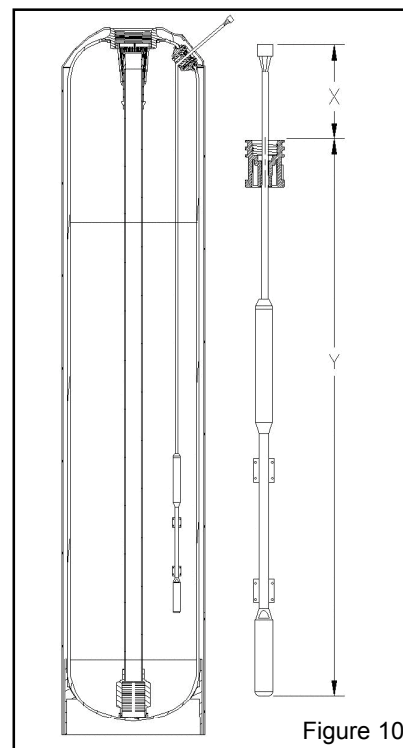

Figure 10
3. Install the outlet manifold into the tank (Figure 10).
- A. Measure the sensor cable length as shown in Figure 10 and Table 1 (the Aqua-Sensor® cord is set at the factory for a 9" tank).